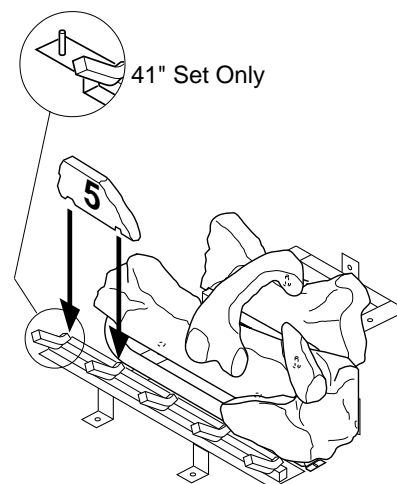

Figure 50 - Installing Log No. 5
5. Place log #5 (small log) onto the front left part of the grate making sure the notches fit over the prongs of the grate (and hole over pin on 41" set). See Figure 50.